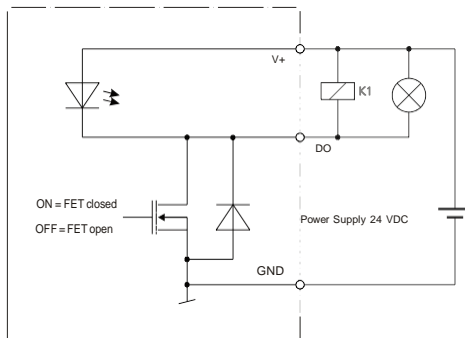

Fig. 20: Open drain output with external load
The PLDM1010(H) and PLDM1030(H) contain two digital outputs for level monitoring (DOOut/In1 and DOOut2) and one digital output for error signalization (DOOutErr). These outputs are open drain outputs as shown in figure 20 and can drive up to **200mA**. Maximum switching voltage is 30V DC. In the ON state, the FET transistor is electro conductive.